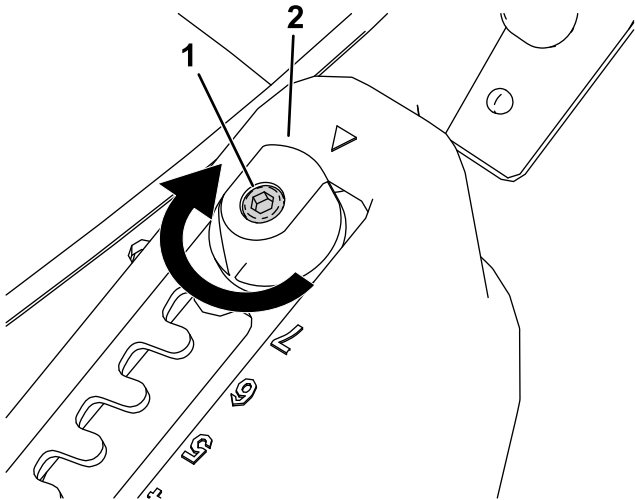
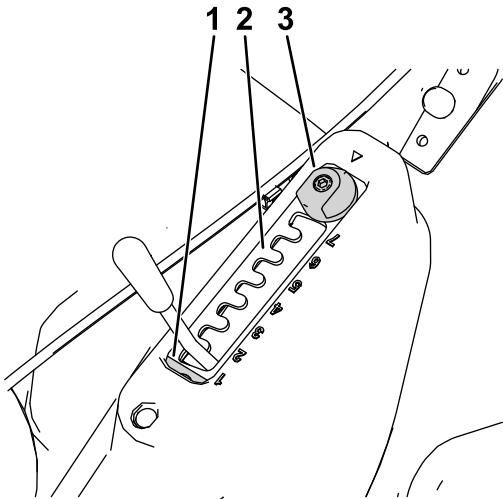

Figure 17
Figure 18
1. Loosen the selector-plate retaining bolt with an Allen wrench (Figure 17).
2. Turn the MatchCut adjuster 180° (Figure 17 and Figure 18).